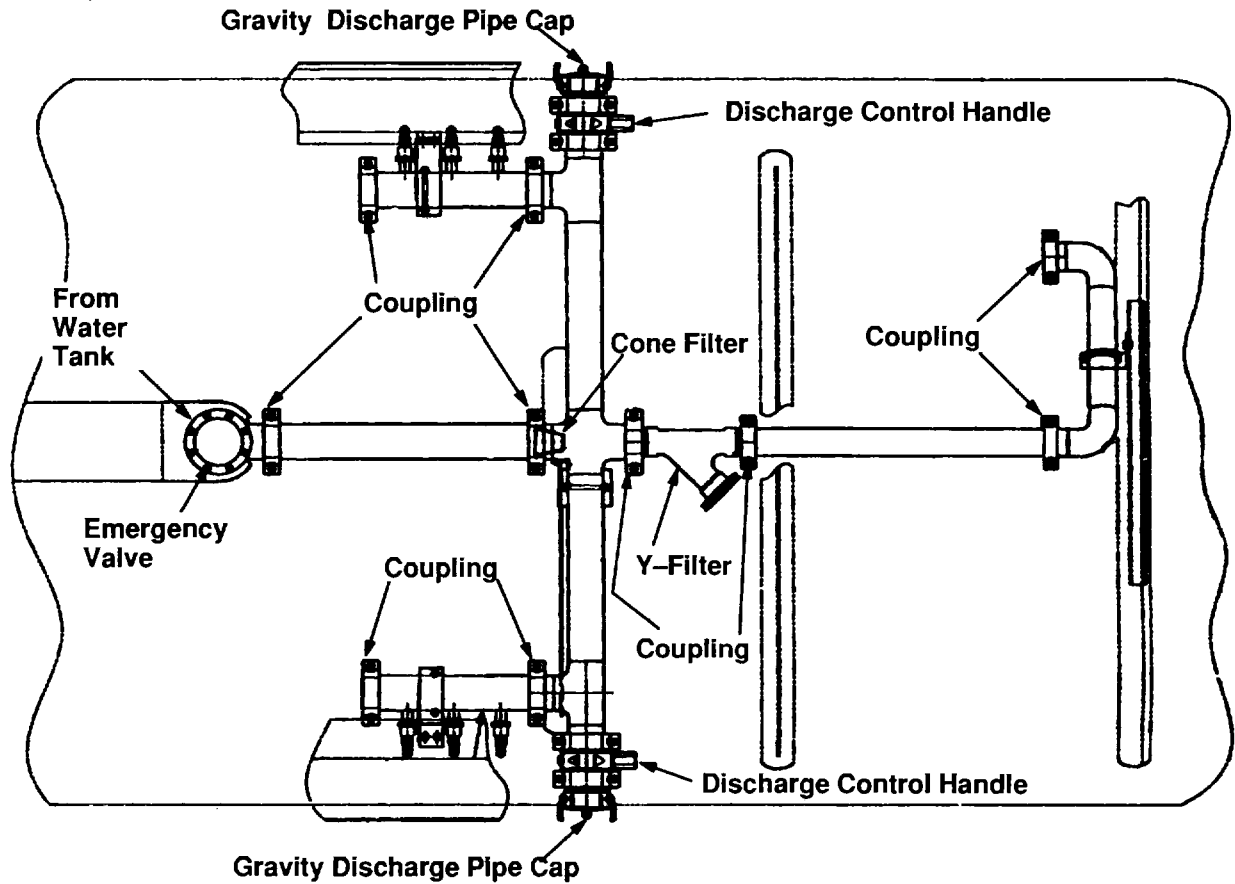
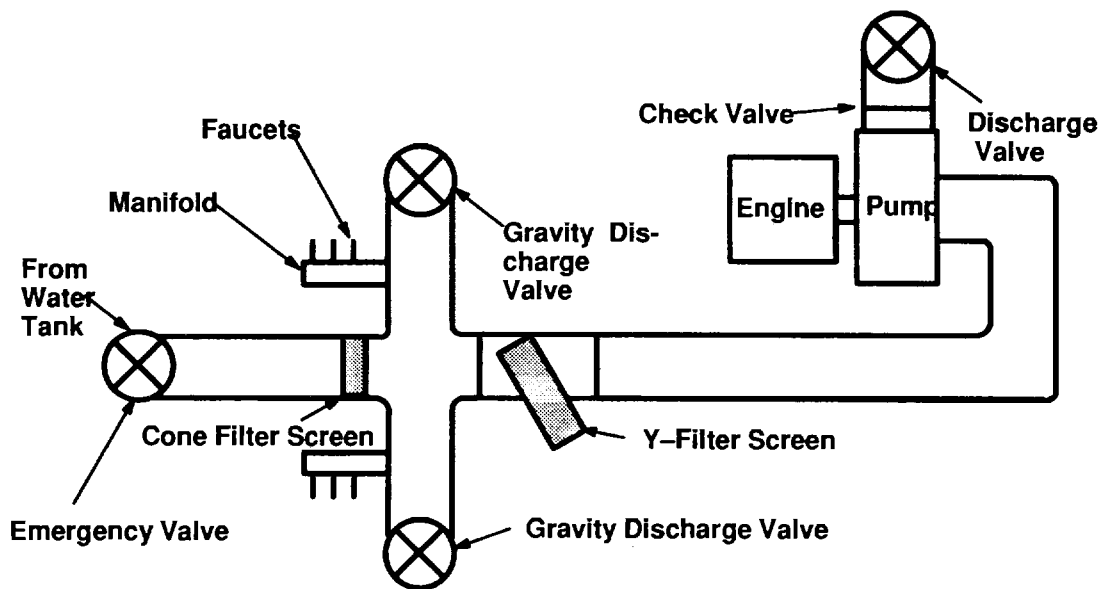

Figure 2-19. M1098 Water Tanker Piping
Figure 2-20. M1098 Water Tanker Piping Schematic
e. *Operation Under any Unusual Terrain (all of a through b).* After operating the M1098 water tanker in unusual terrain, inspect, clean and sanitize critical areas of the undercarriage, fig. 2-19. Also consult fig. 2-20. These illustrations locate critical areas: couplings; Y-filter and valves. Sanitizing procedures are presented in para 4-37.